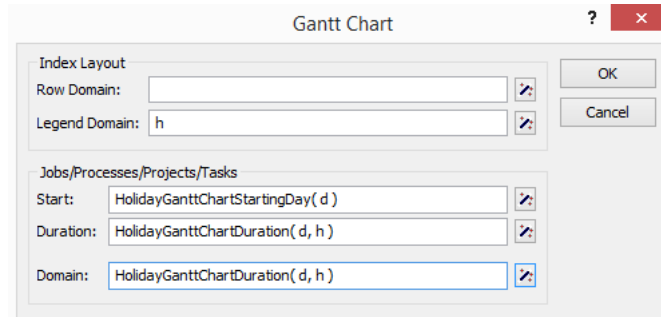

Figure 12.10: The **Gantt Chart** dialog box for holiday planning
- ▶ use the **Wizard** buttons  to complete the **Gantt Chart** dialog box as shown in Figure 12.10.